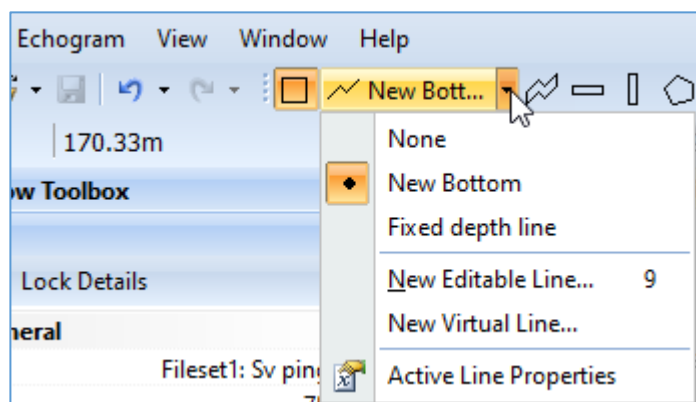

Figure 21. The Line and Surface tool's menu with the New Bottom line selected.
30. On the menu, select *New Bottom* (see Figure 21). This is now the active line to which your edits will be applied.